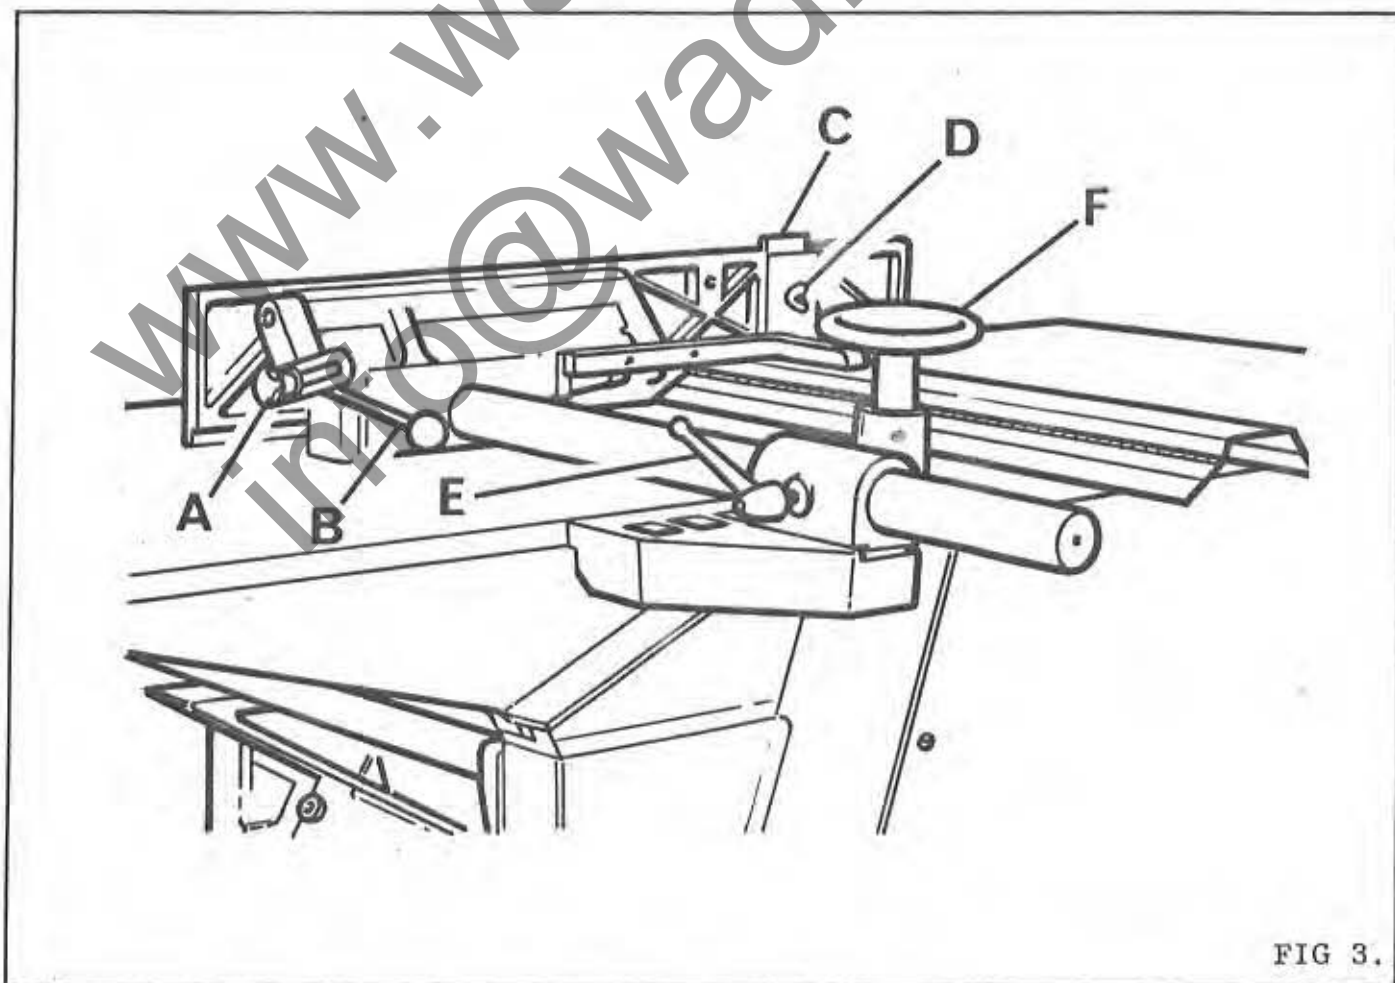

FIG 3.
To cant fence, loosen handwheel "A" in FIG. 3 and move fence to required position by lever "B". When set relock handwheel "A".
2. Check the 90° positive stop by means of a steel square as in FIG. 5. If adjustment is necessary, loosen locknuts "A" then adjust hexagon head bolts "B" until fence is at right angles to table when hard up against the stops with the handwheel "A" in FIG. 3. locked. When set, tighten locknuts "A" in FIG. 5.
3. Check the 45° positive stop by means of an adjustable square. If adjustment is necessary, loosen locknut "C" in FIG. 5. then adjust hexagon head bolt "D" until the fence is 45° to the table when hard up against the stop and the handwheel "A" in FIG. 3. locked. When set, tighten locknut "C" in FIG. 5.